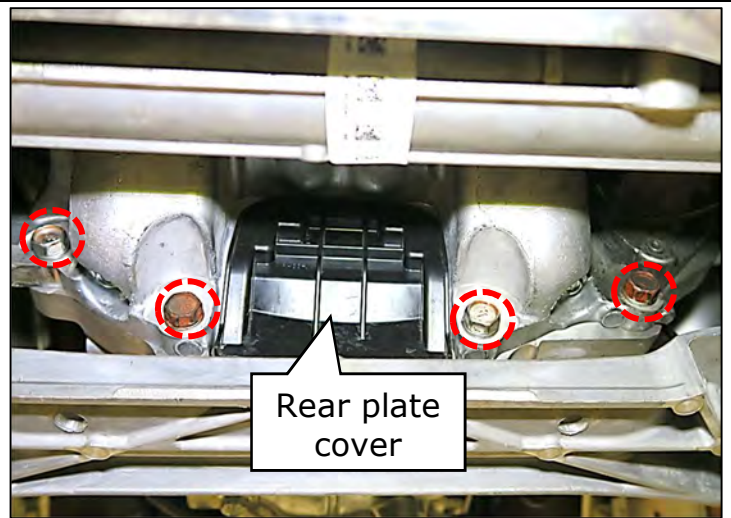

Figure 78
80. Reinstall the (4) engine side transmission bolts shown in Figure 78.